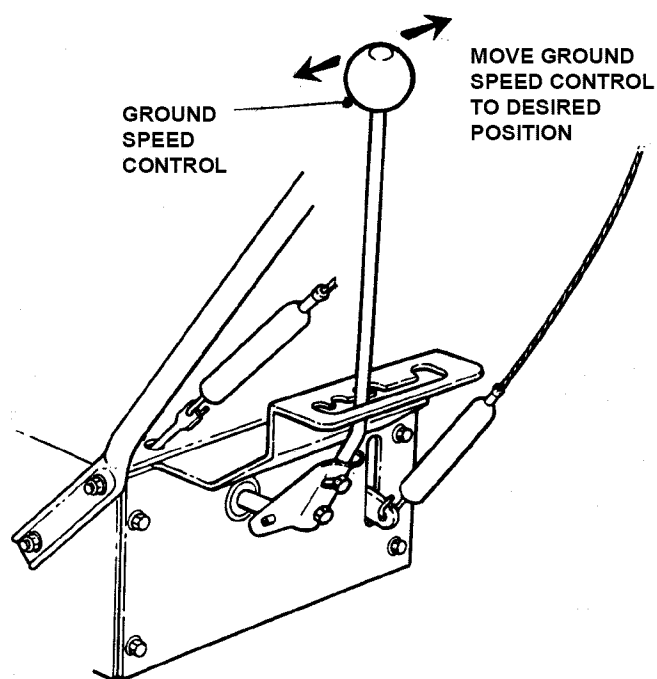

FIGURE 2.5
1. Move ground speed control to the desired speed position. See Figure 2.5.
IMPORTANT: This snow thrower has four forward speeds and one reverse speed. Refer to Figure 2.5.
1. Move ground speed control to the desired speed position. Refer to Figure 2.5.